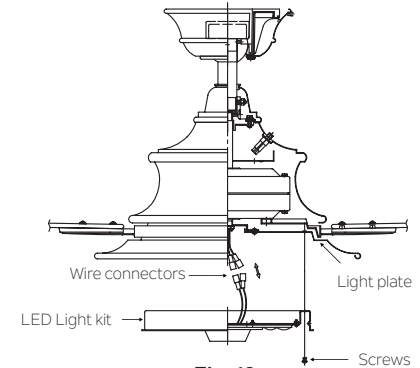

Fig. 18
Hold the LED light kit close to the light plate and connect the white wires from the socket plate and the fan by pushing the connectors together. Follow the same procedure with the black wire connectors. (Fig. 18)
**Step 2.** Tuck the connections neatly into the light plate. Place the key holes on the LED light kit over the 2 screws previously loosened from the light plate, turn the LED light kit until it locks in place at the narrow section of the key holes. Secure by tightening all three screws. (Fig. 18)